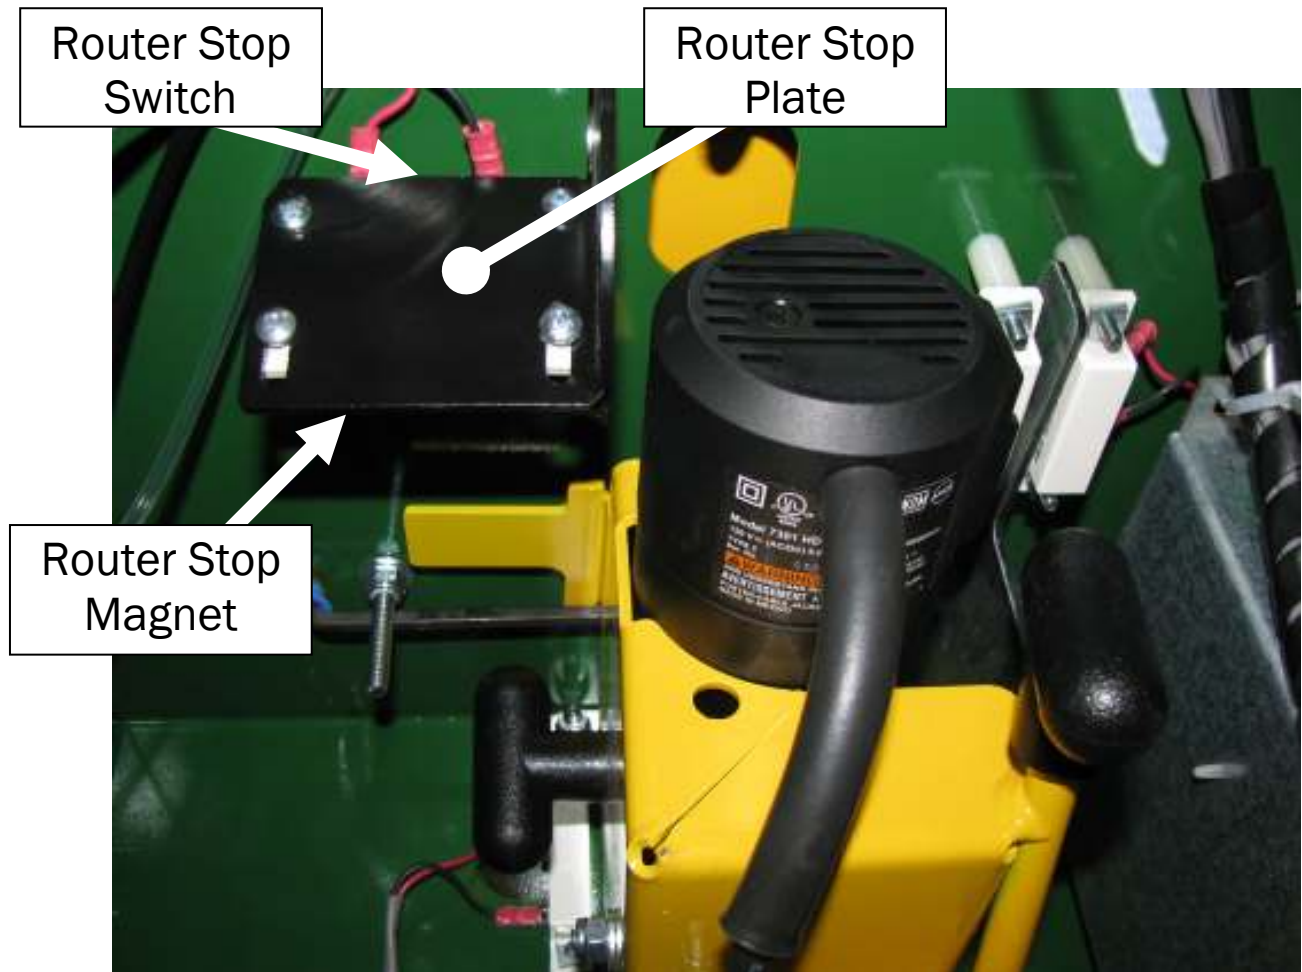

Figure 12
2. The Router Stop Switch and Magnet are attached to the back side of the Router Stop Plate, which is located just to the left of the Drill motor. **See fig. 12.**